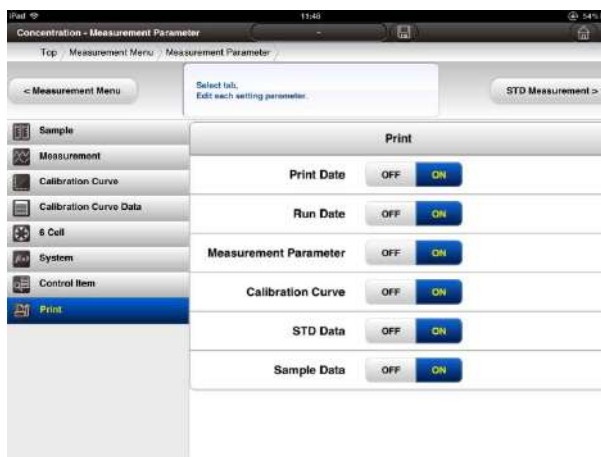

Fig. 4-11 Print Window
- (1) Press  [print tab] to set printing conditions.
- (2) The printing conditions window (Fig. 4-11) will then be shown.